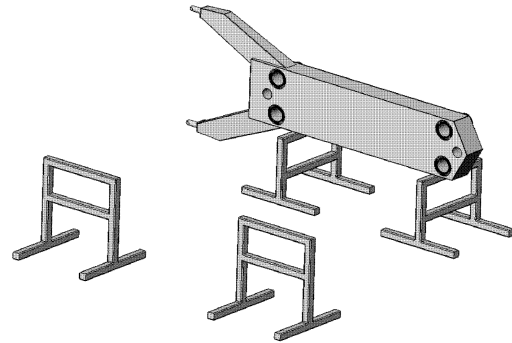

Figure 6-2
2. Position the two 25 $\frac{3}{4}$ " jack stands (see figure 6-2). Depending on the size frame you are installing the actual distance from the fixed end will vary. These stands will support the rails and should be located so they are opposite from the rail holes in the fixed end.